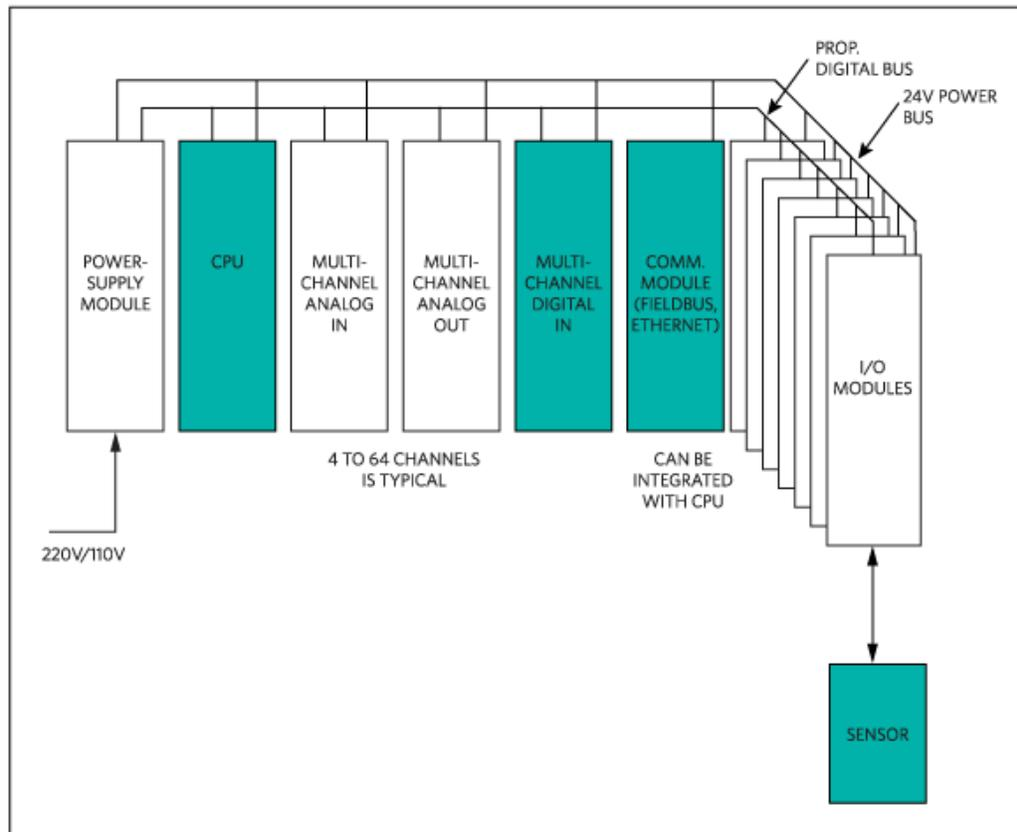

Figure 1. Typical industrial-control system.
While 24VDC has become the *de facto* voltage for the majority of industrial-control applications (particularly those that employ PLCs), 12VDC is also common, typically as a battery-backup voltage or supplied by an alternative energy source such as photovoltaic (PV) panels. The recent introduction of Power-over-Ethernet (PoE) has also encouraged manufacturers of industrial automation to design equipment that operates from the 48VDC supply mandated by that standard. A typical industrial-control system employing a 24VDC supply is shown in **Figure 1**.